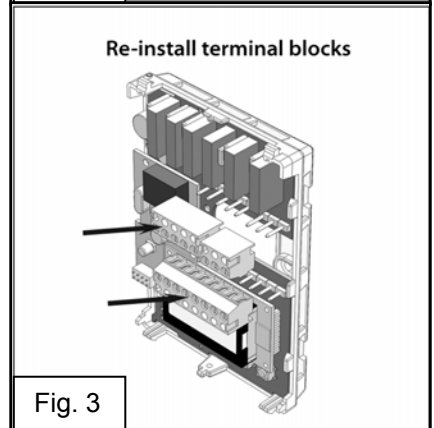

Fig. 3
11. Gently push excess wiring back into hole (fig. 3).
12. Re-Install wiring terminals in their correct locations (fig. 3)